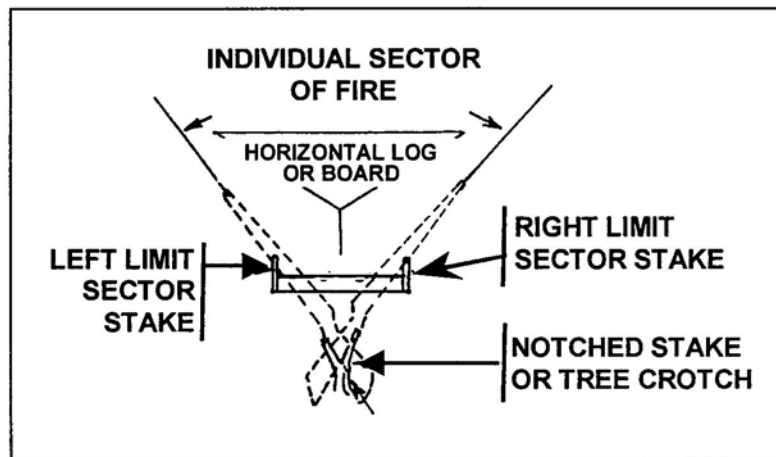

Figure 1. Sector stakes.
1. Sector stakes. Sector stakes mark the left and right limits of your sector of fire (Figure 1).